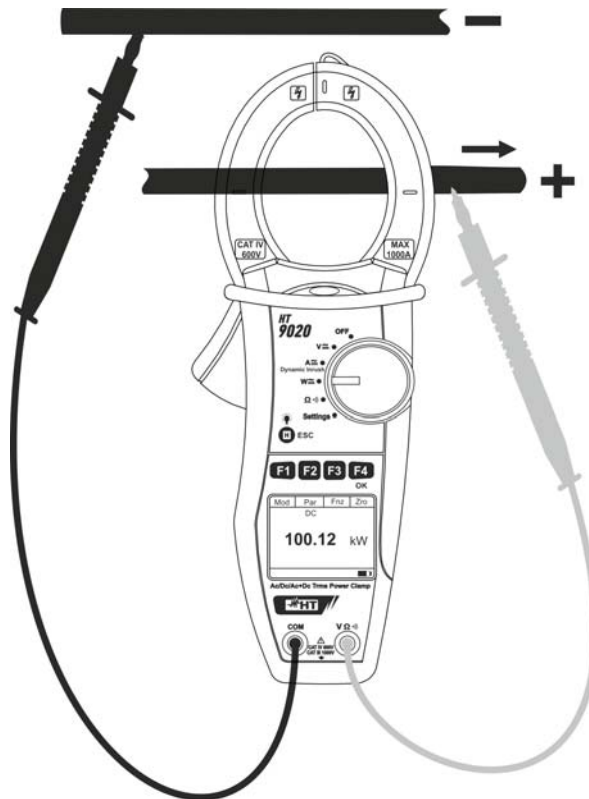

Fig. 11: DC power/energy measurement
5. Connect red cable to input lead **VΩ $\frac{1}{A}$** and black cable to input lead **COM**. Position red lead to “+” and black lead to “-” then connect “+” cable to the clamp jaws, respecting the direction of current indicated by the arrow (see Fig. 11). Connect the cable to the middle of the clamp jaws, in order to get accurate measurements. Use the marks as a reference (see Fig. 2)
6. The value of DC power is displayed expressed in kW. Press **F2 (Par)** to open the drop-down menu shown on the screen aside and select the “**Volt/Curr**” option for the DC voltage and current measurement. Confirm with **F4 (OK)**. The following screen is displayed: